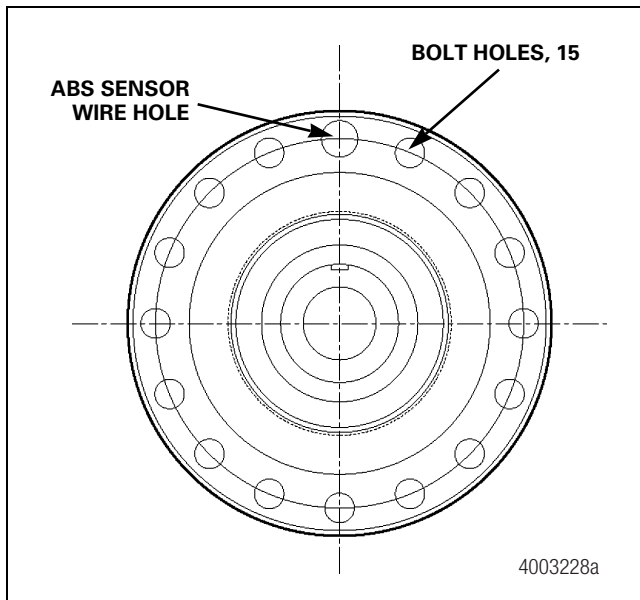

Figure 6.29
- **For a 16-hole flange:** Fasten the brake by installing the correct 5/8-inch (15.875 mm) diameter fasteners through the fifteen 0.656-inch (17 mm) holes. Tighten the fasteners to 180-230 lb-ft (244-312 N•m). Figure 6.29.